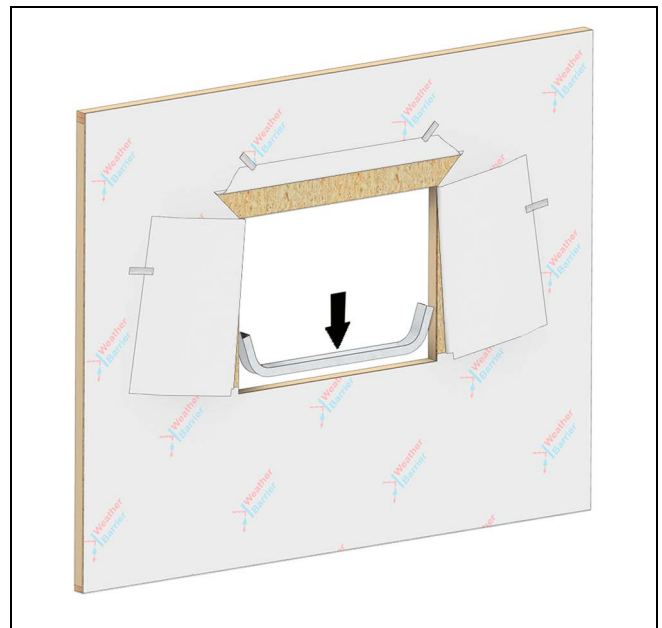

Figure 20
3. **Type III Sill Pan Flash:** Apply self sealing flexible membrane slope. See Figure 20.